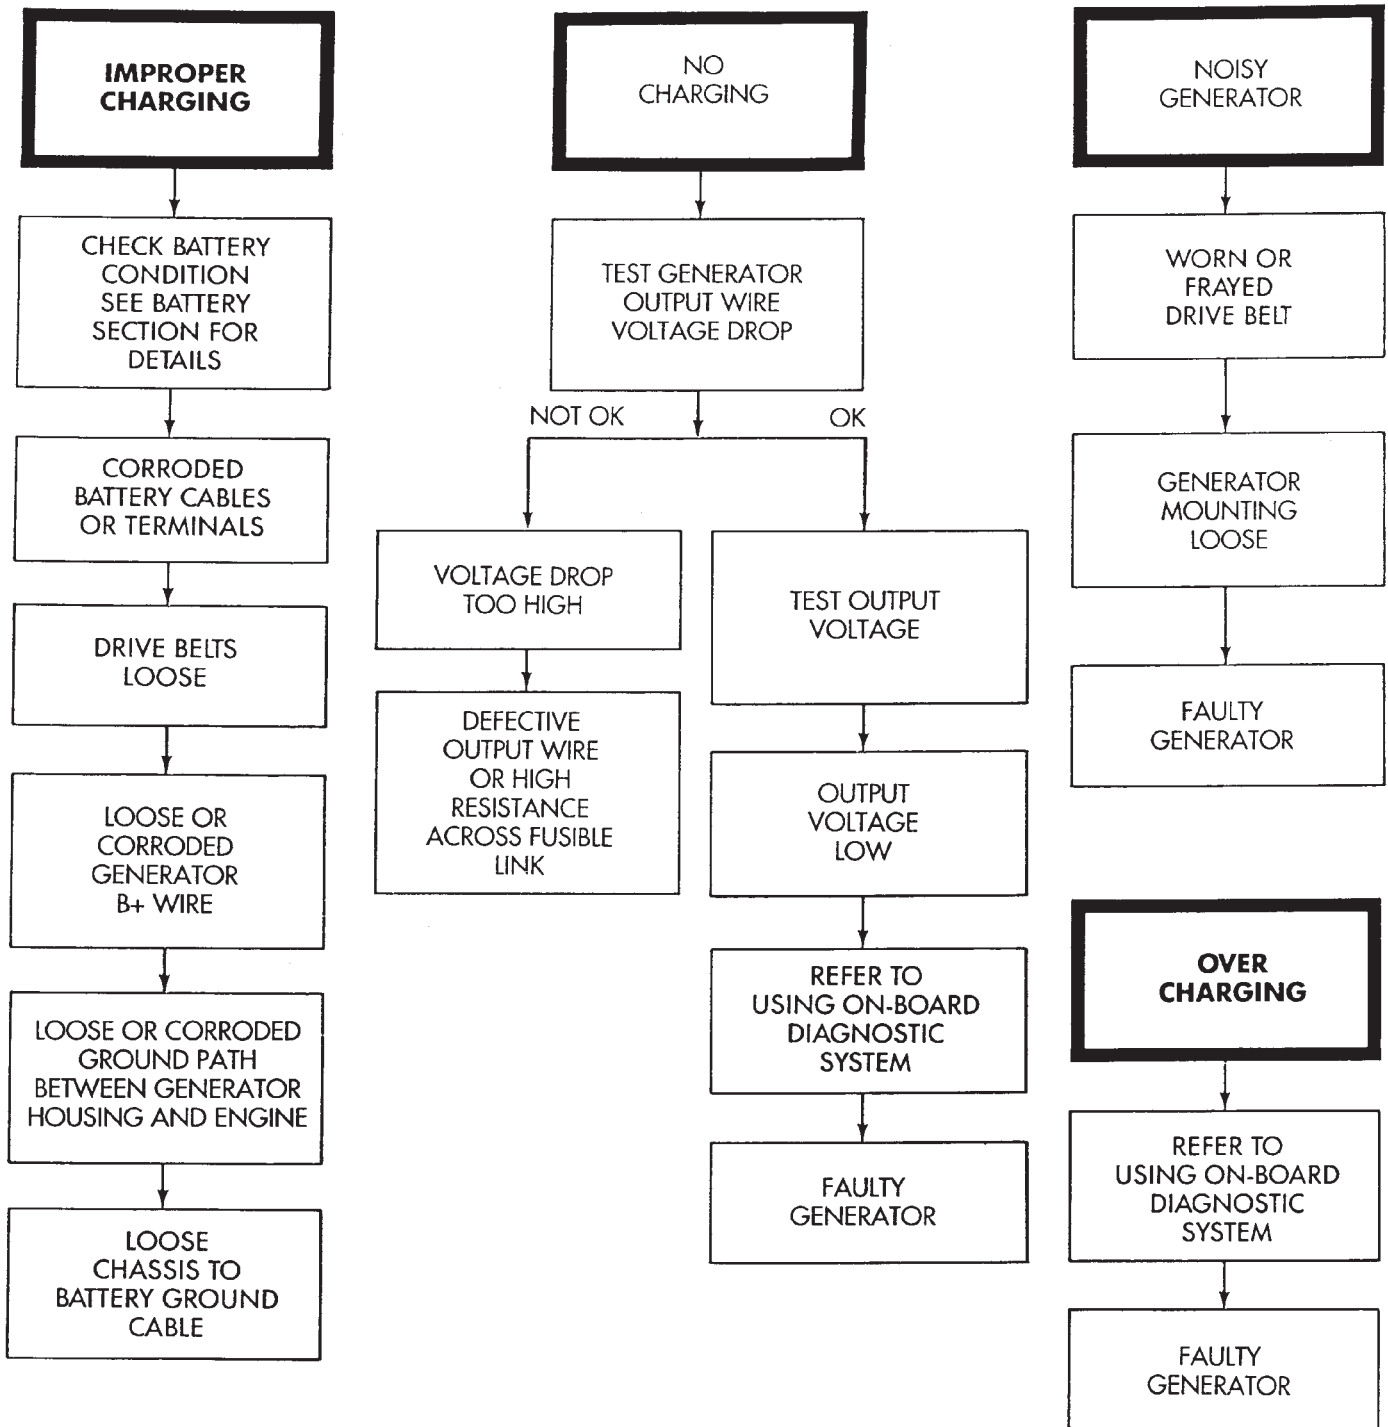

Fig. 1 Charging Diagnostics
**CHARGING SYSTEM DIAGNOSTICS (Fig. 1)****OUTPUT WIRE VOLTAGE DROP TEST**